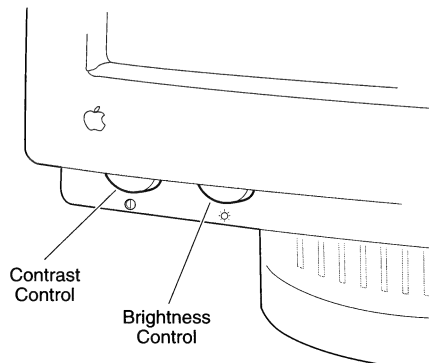

Figure 5 Contrast and Brightness Controls
2. FIGURE 5. Set the contrast control to maximum and the brightness control to the center (detent) position.
7. FIGURE 5. Set the Sub-Contrast control to center position.